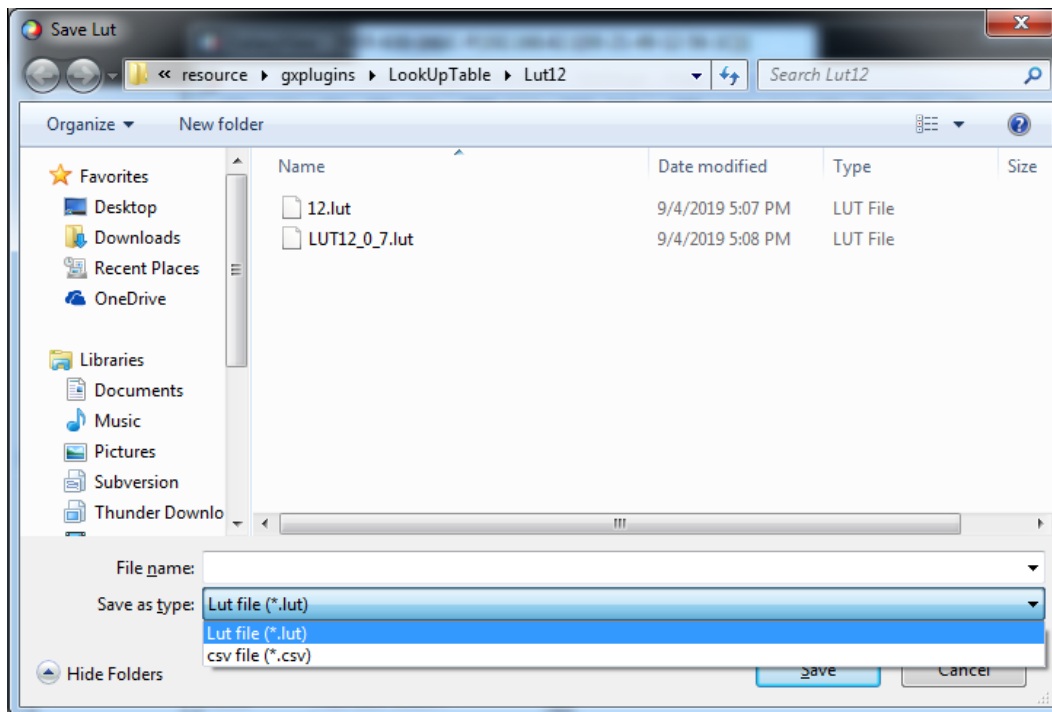

Figure 9-6 Save to file
1. When selecting " Save To File ", the current Lut data can be saved to the file. The saved file contains two formats: Lut and csv, as shown in Figure 9-6: